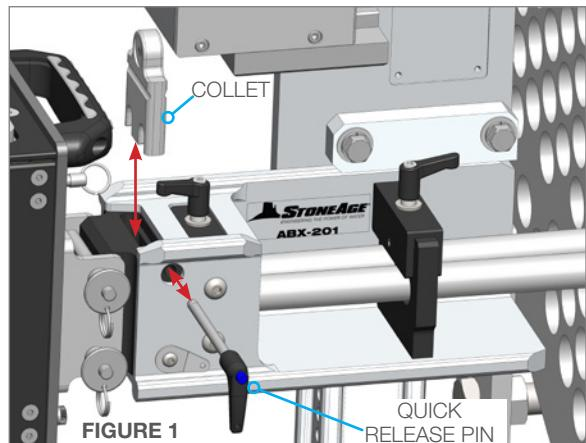

FIGURE 1
1. Remove Quick Release Pin and pull out existing Collet. Select the appropriate Collet size for the diameter of the hoses. (See the "Recommended Collets For Common Hose Sizes" plaque on the top plate of the AUTOBOX® (ABX-2L-B) Hose Tractor. (Figure 1)